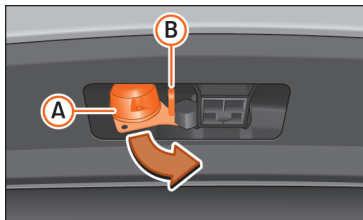

Fig. 177 Turning the 13-pin connector
- Grip the connector in area **A** and remove it in the direction of the arrow »» Fig. 177.
- Open the cover of connector **A** and connect the trailer »» Fig. 177.
- Hook the trailer retention cable into the safety eyelet »» Fig. 177 **B**. When hooked, the retaining cable must **curve** in all trailer positions in front of the vehicle (sharp curves, reverse, etc.).